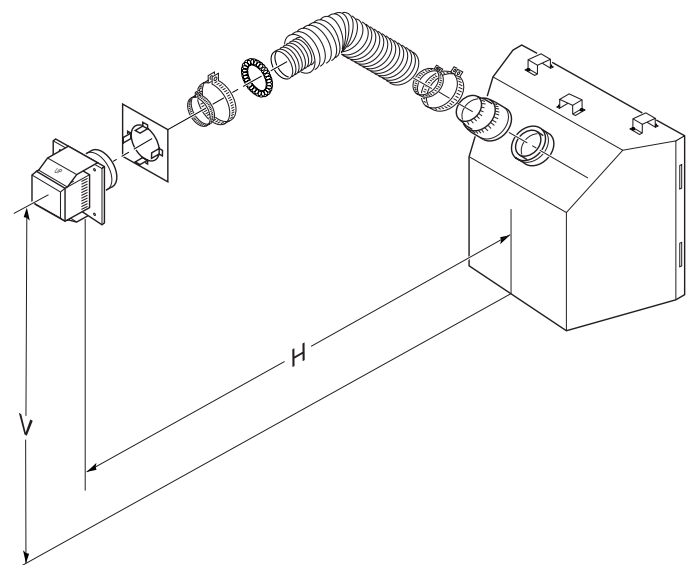

**Figure 17 - Horizontal Termination Configuration for Rigid Venting Using One 90° Elbow**
See information in Figure 17 for Vertical (V) and Horizontal (H) maximums and minimums. The same amounts apply for flexible venting.